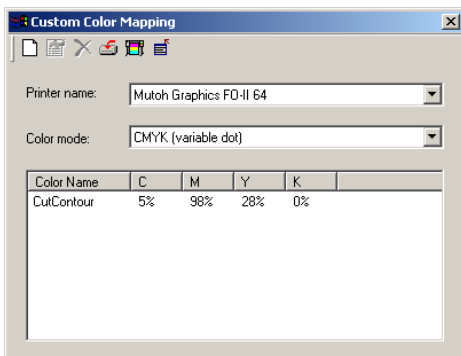

Fig.1
2. Check to make sure image was prepare for contour cutting by double-clicking on Color Mapping Button. Custom color name for Contour line must be: "CutContour" (Fig 1)